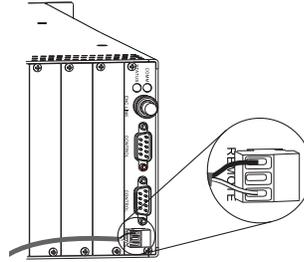

FIG. 4 Insert wires into REMOTE connector (shown on Modula enclosure)
5. Insert the two wires from the CP-10 into the two outer slots of the CPU's connector, leaving the center slot empty (FIG. 4). Either wire goes into either outside slot.